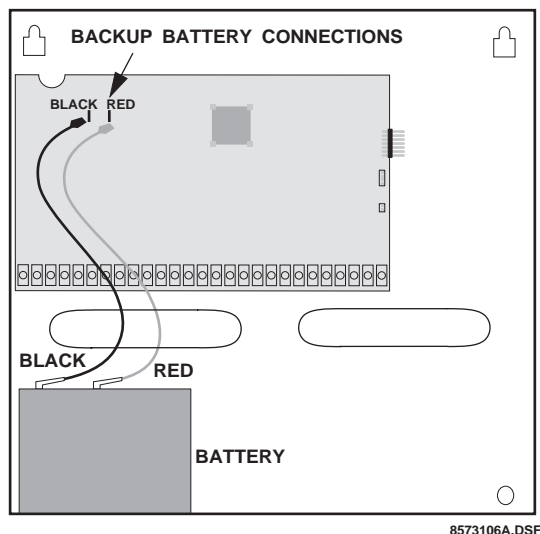

Figure 36. Connecting the Backup Battery to the Panel (Hardwire Panel Shown—Combination Hardwire/Wireless Panel Similar)
1. Connect the red and black battery leads (included with panel) to the lugs located in the upper-left area of the panel circuit board (see Figure 36).